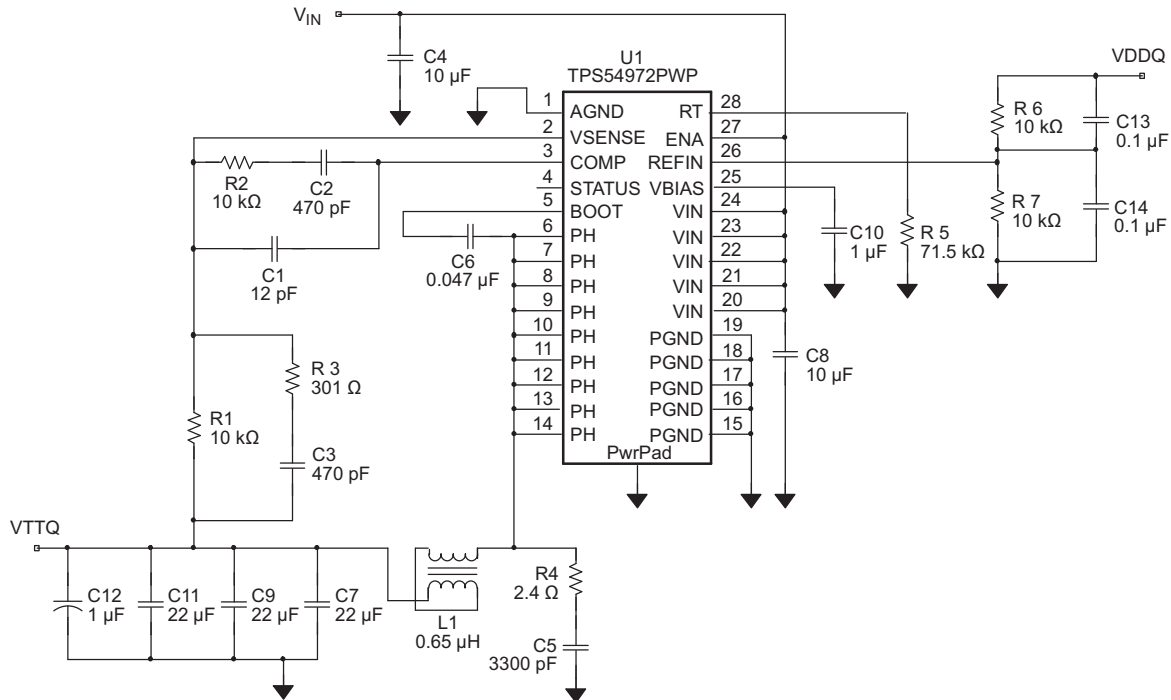

Figure 8. Application Circuit
- (1) Specified by design
(2) Static resistive loads only
(3) Specified by the circuit used in Figure 8
Figure 8 shows the schematic diagram for a typical TPS54972 application. The TPS54972 (U1) can provide up to 9 A of output current at a nominal output voltage of one half of  $V_{(DDQ)}$  (typically 1.25 V). For proper operation, the PowerPAD underneath the integrated circuit TPS54972 is soldered directly to the printed-circuit board.